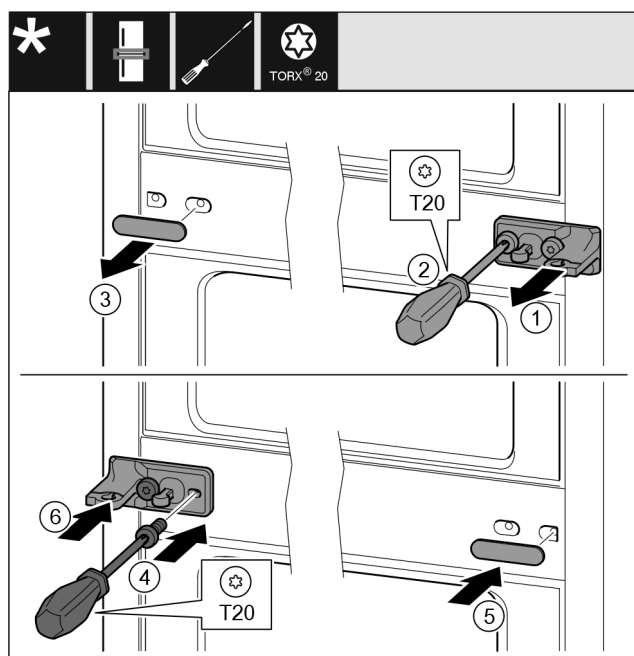

Fig. 13
- ▶ Pull off the washer Fig. 13 (1).
- ▶ Turn out the screws Fig. 13 (2) with the screw driver.
- ▶ Carefully pull off the cover Fig. 13 (3).
- ▶ Tightly screw on the swap bearing block with film Fig. 13 (4) on the other side turned by 180°.
- ▶ Attach the cover Fig. 13 (5) on the other side turned by 180°.
- ▶ Press on the washer Fig. 13 (6) from the front.